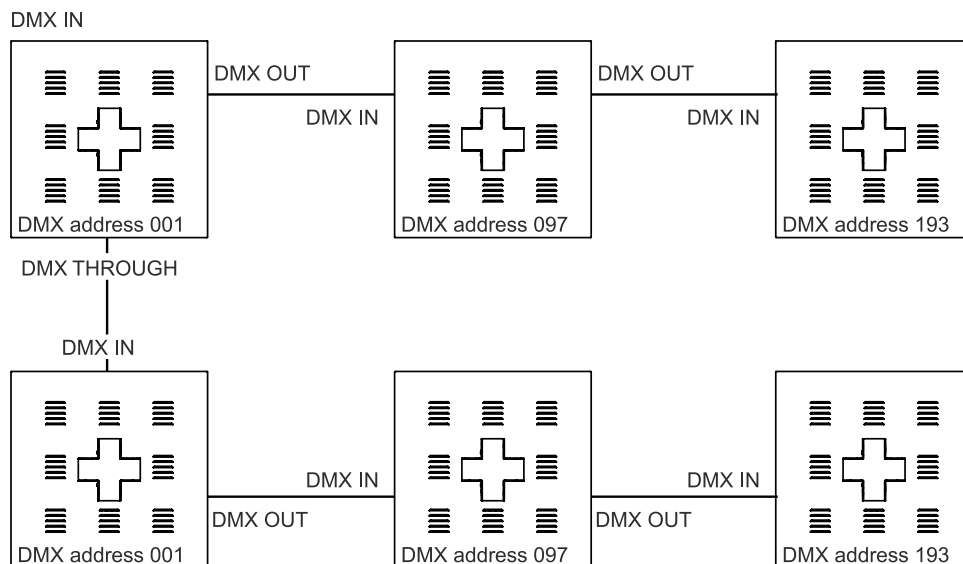

Figure 8: System layouts
- Panels must be 'daisy-chained' (i.e. the control data cable must be connected in one single chain of panels). It is possible to split a link into two branches by using the **DMX THROUGH** and **DMX OUT** outputs from one panel at the same time, but note that these outputs relay the DMX signal differently (see "Grouped and independent panel control" on page 11 and see examples in Figure 8).
Figure 8 gives examples of how systems can be laid out depending on the type of control required. Note the different results of connecting to DMX THROUGH or to DMX OUT. Panels are set to 16-bit mode in all the examples.